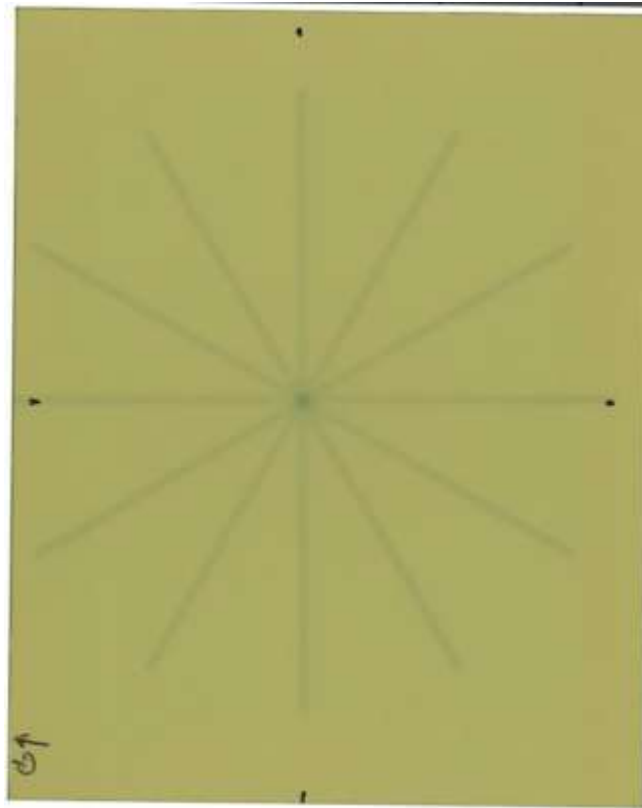

Figure 2: Collimator star shot
similar to Figure 2. As no build-up layer the dose/MU is lower than for the gantry star shot and the darkening on the film is less.
6. Remove the film from the slab and proceed to Scanning and Star Shot Image Analysis, Step D1. Note: The couch star shot should look similar to Figure 2. As no build-up layer the dose/MU is lower than for the gantry star shot and the darkening on the film is less.